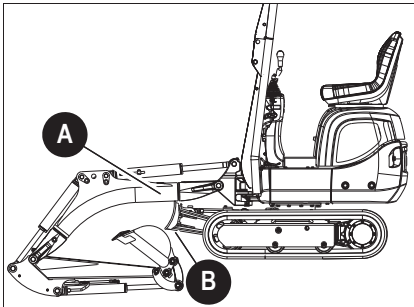

Fig. 184: Working alongside trenches
- Ensure that stabilizer blade **B** never touches boom **A** *Fig. 184*